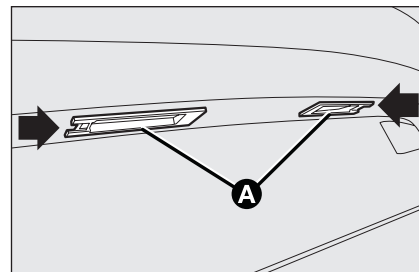

fig. 34
- ☐ work in the point shown by the arrow and remove lens unit **A-fig. 34**;